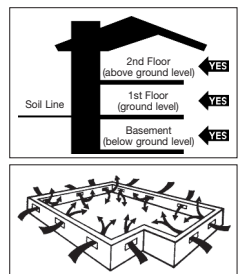

Figure 1
- Crawl spaces must be a minimum of 18" (46 cm) from the ground to the underside of the joists. A ground cover of 6-20 mil black polyethylene film is essential as a vapor barrier with joints lapped 6" (15 cm) and sealed with moisture-resistant tape. The crawl space should have perimeter venting equal to a minimum of 1.5% of the crawl space square footage. These vents should be properly located to foster cross ventilation (Figure 1).